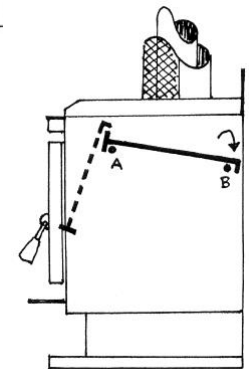

Fig. 4
**FITTING THE BAFFLE PLATE (Fig. 4)**